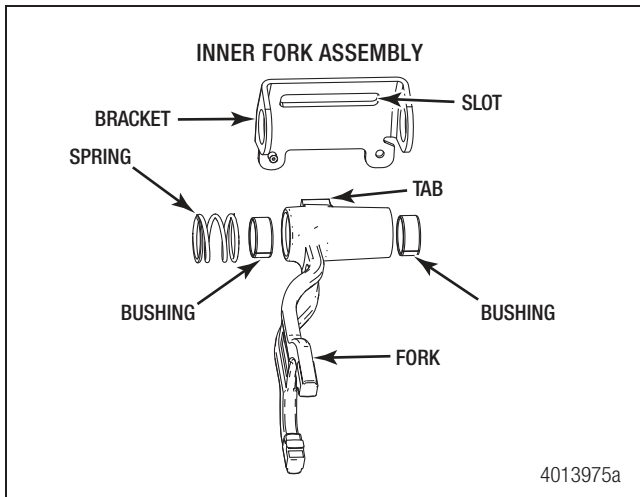

Figure 6.11
1. To disassemble the inner shift fork assembly, remove the spring, two bushings and shift fork from the shift bracket as shown. Label the parts and keep the shift fork assembly parts separate to avoid confusion during reassembly. Figure 6.11.